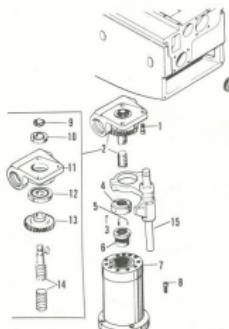

Figure 8. Elevate Mechanism (2-1)
## 20. ELEVATE FEED SCREW AND VERTICAL HYDRAULIC CYLINDER (2-1) (figure 8)
Legend for figure 8
## 30. REMOVING CROSS FEED DRIVE BELT (Figure 8)
8. The complete ball screw feedback assembly can then be removed from bottom of the knee (See figure 8). Be careful when removing it to prevent damage to the threads on the screw. Set the assembly on a clean work bench.